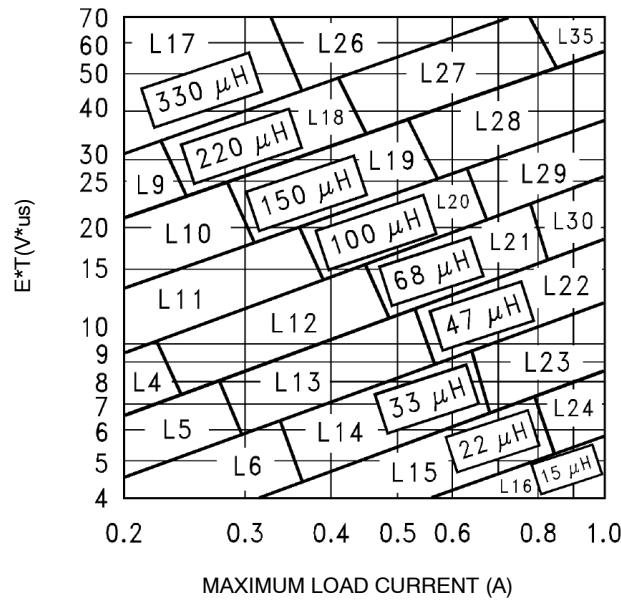

Figure 19. Inductor Value Selection Guides (For Continuous Mode Operation)
<p>4. Inductor Selection (L1)</p> <p>A. Use the following formula to calculate the inductor Volt x microsecond [V x μs] constant:</p> $E \times T = (V_{IN} - V_{OUT} - V_{SAT}) \times \frac{V_{OUT} + V_D}{V_{IN} - V_{SAT} + V_D} \times \frac{1000}{150 \text{ kHz}} (V \times \mu s)$ <p>B. Match the calculated E x T value with the corresponding number on the vertical axis of the Inductor Value Selection Guide shown in Figure 19. This E x T constant is a measure of the energy handling capability of an inductor and is dependent upon the type of core, the core area, the number of turns, and the duty cycle.</p> <p>C. Next step is to identify the inductance region intersected by the E x T value and the maximum load current value on the horizontal axis shown in Figure 19.</p> <p>D. Select an appropriate inductor from Table 3. The inductor chosen must be rated for a switching frequency of 150 kHz and for a current rating of 1.15 x I_{Load}. The inductor current rating can also be determined by calculating the inductor peak current:</p> $I_{p(max)} = I_{Load(max)} + \frac{(V_{in} - V_{out}) t_{on}}{2L}$ <p>where t_{on} is the "on" time of the power switch and</p> $t_{on} = \frac{V_{out}}{V_{in}} \times \frac{1.0}{f_{osc}}$	<p>4. Inductor Selection (L1)</p> <p>A. Calculate E x T [V x μs] constant:</p> $E \times T = (12 - 5 - 1.0) \times \frac{5 + 0.5}{12 - 1 + 0.5} \times \frac{1000}{150 \text{ kHz}} (V \times \mu s)$ $E \times T = (6) \times \frac{5.5}{11.5} \times 6.7 (V \times \mu s)$ <p>B. E x T = 19.2 [V x μs]</p> <p>C. I_{Load(max)} = 1.0 A Inductance Region = L30</p> <p>D. Proper inductor value = 68 μH Choose the inductor from Table 3.</p>
To simplify the inductor selection process, an inductor selection guide for the LM2595 regulator was added to this data sheet (Figure 19). This guide assumes that the regulator is operating in the continuous mode, and selects an inductor that will allow a peak-to-peak inductor ripple current to be a certain percentage of the maximum design load current. This percentage is allowed to change as different design load currents are selected. For light loads (less than approximately 300 mA) it may be desirable to operate the regulator in the discontinuous mode, because the inductor value and size can be kept relatively low. Consequently, the percentage of inductor peak-to-peak current increases. This discontinuous mode of operation is perfectly acceptable for this type of switching converter. Any buck regulator will be forced to enter discontinuous mode if the load current is light enough.